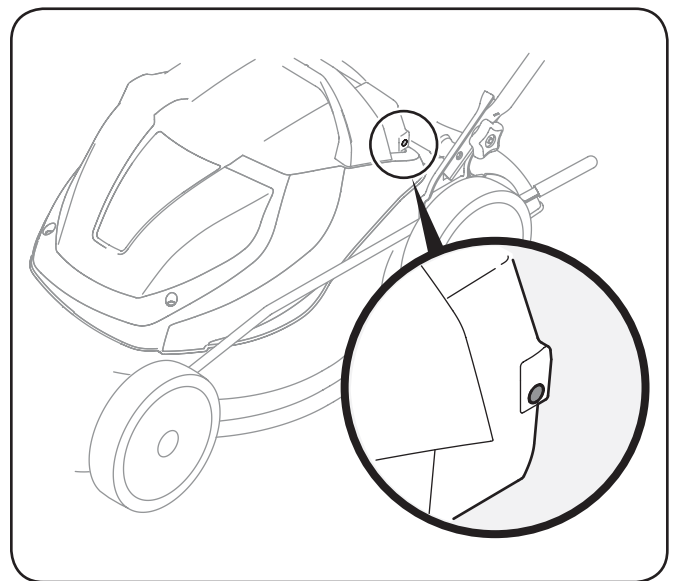

Figure 6-2
3. Press the overload protection switch inward to reset. See Fig. 6-2.